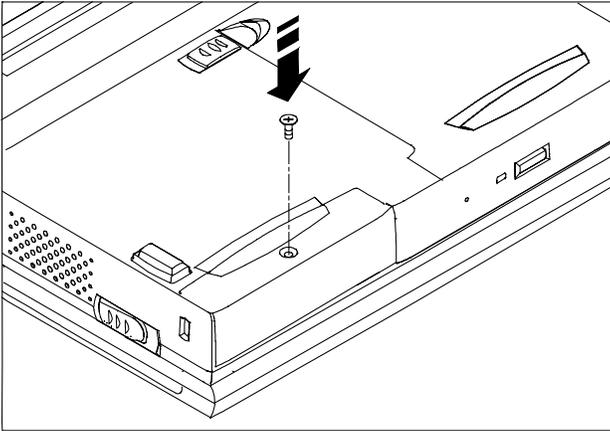
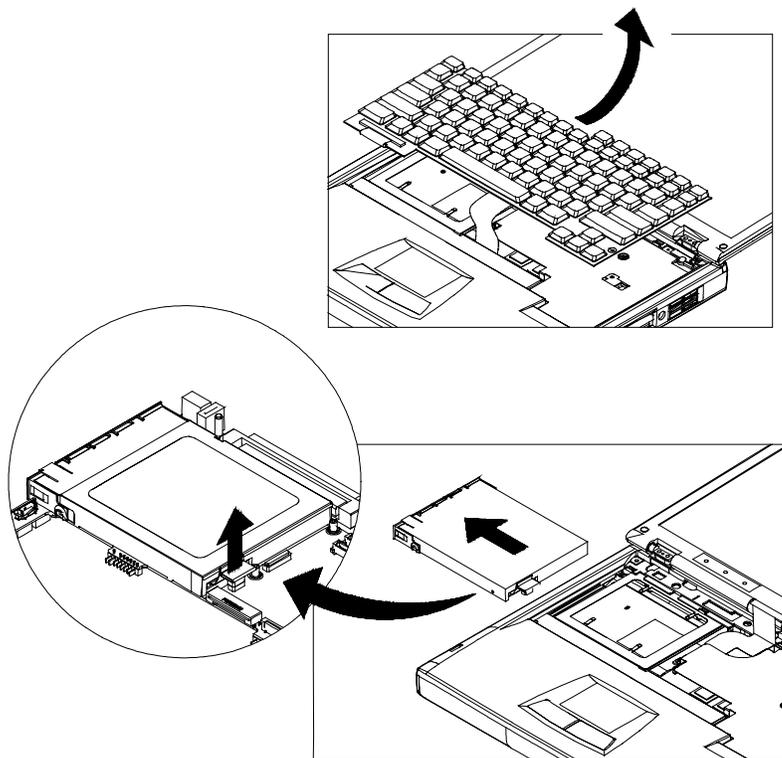

Figure 6-7: : Replacing the HDD Module
Figure 6-8: Removing the FDD Module (B)
To remove and install the FDD module, please refer to *Figure 6-7*, *Figure 6-8*, and the following directions.
4. Remove the two screws holding the keyboard in place. Now gently lift the keyboard, placing it down on the touch pad as shown in **Figure 6-8**. Take care that you don't damage the ribbon cable attached to the keyboard.